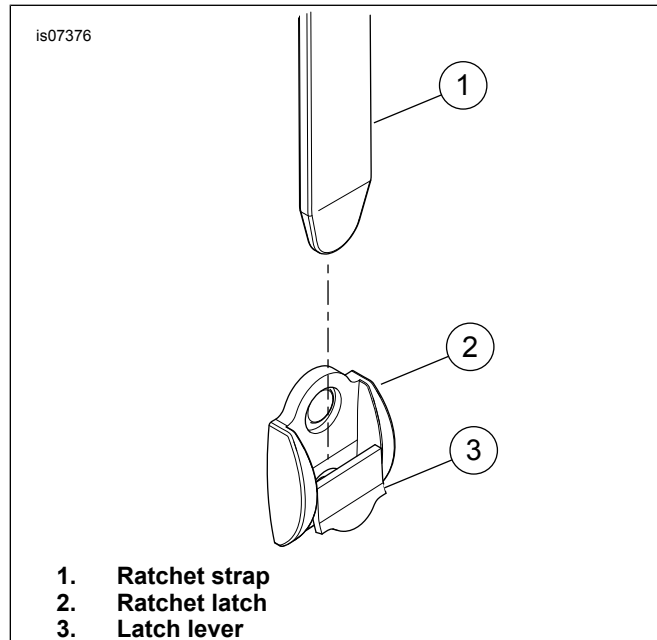

Figure 1. Ratchet Latch
1. See Figure 1. Lift both saddlebag lid straps off of the magnetic snap to expose the ratchet latches (2).
2. Lift up on the latch levers (3) to release the ratchet straps (1) from the latch. Repeat for opposite ratchet latch.
1. See Figure 1. Lift each saddlebag lid strap off of the magnetic snap to expose the ratchet latches (2).
2. Push each of the latch levers (3) closed.
3. Align the ratchet straps (1) and then insert them into the tops of the latches (2).